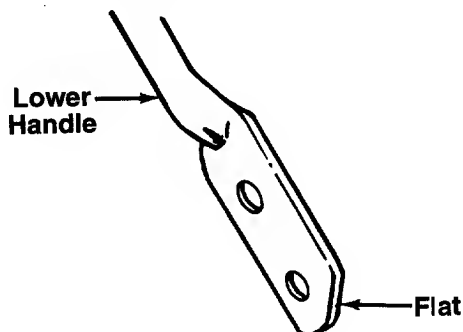

FIGURE 11.
4. Turn the lower handle around so the flat on the bottom is facing upward as shown in figure 11. Reassemble, placing the bottom holes in the handle over the weld pins in the handle mounting bracket.